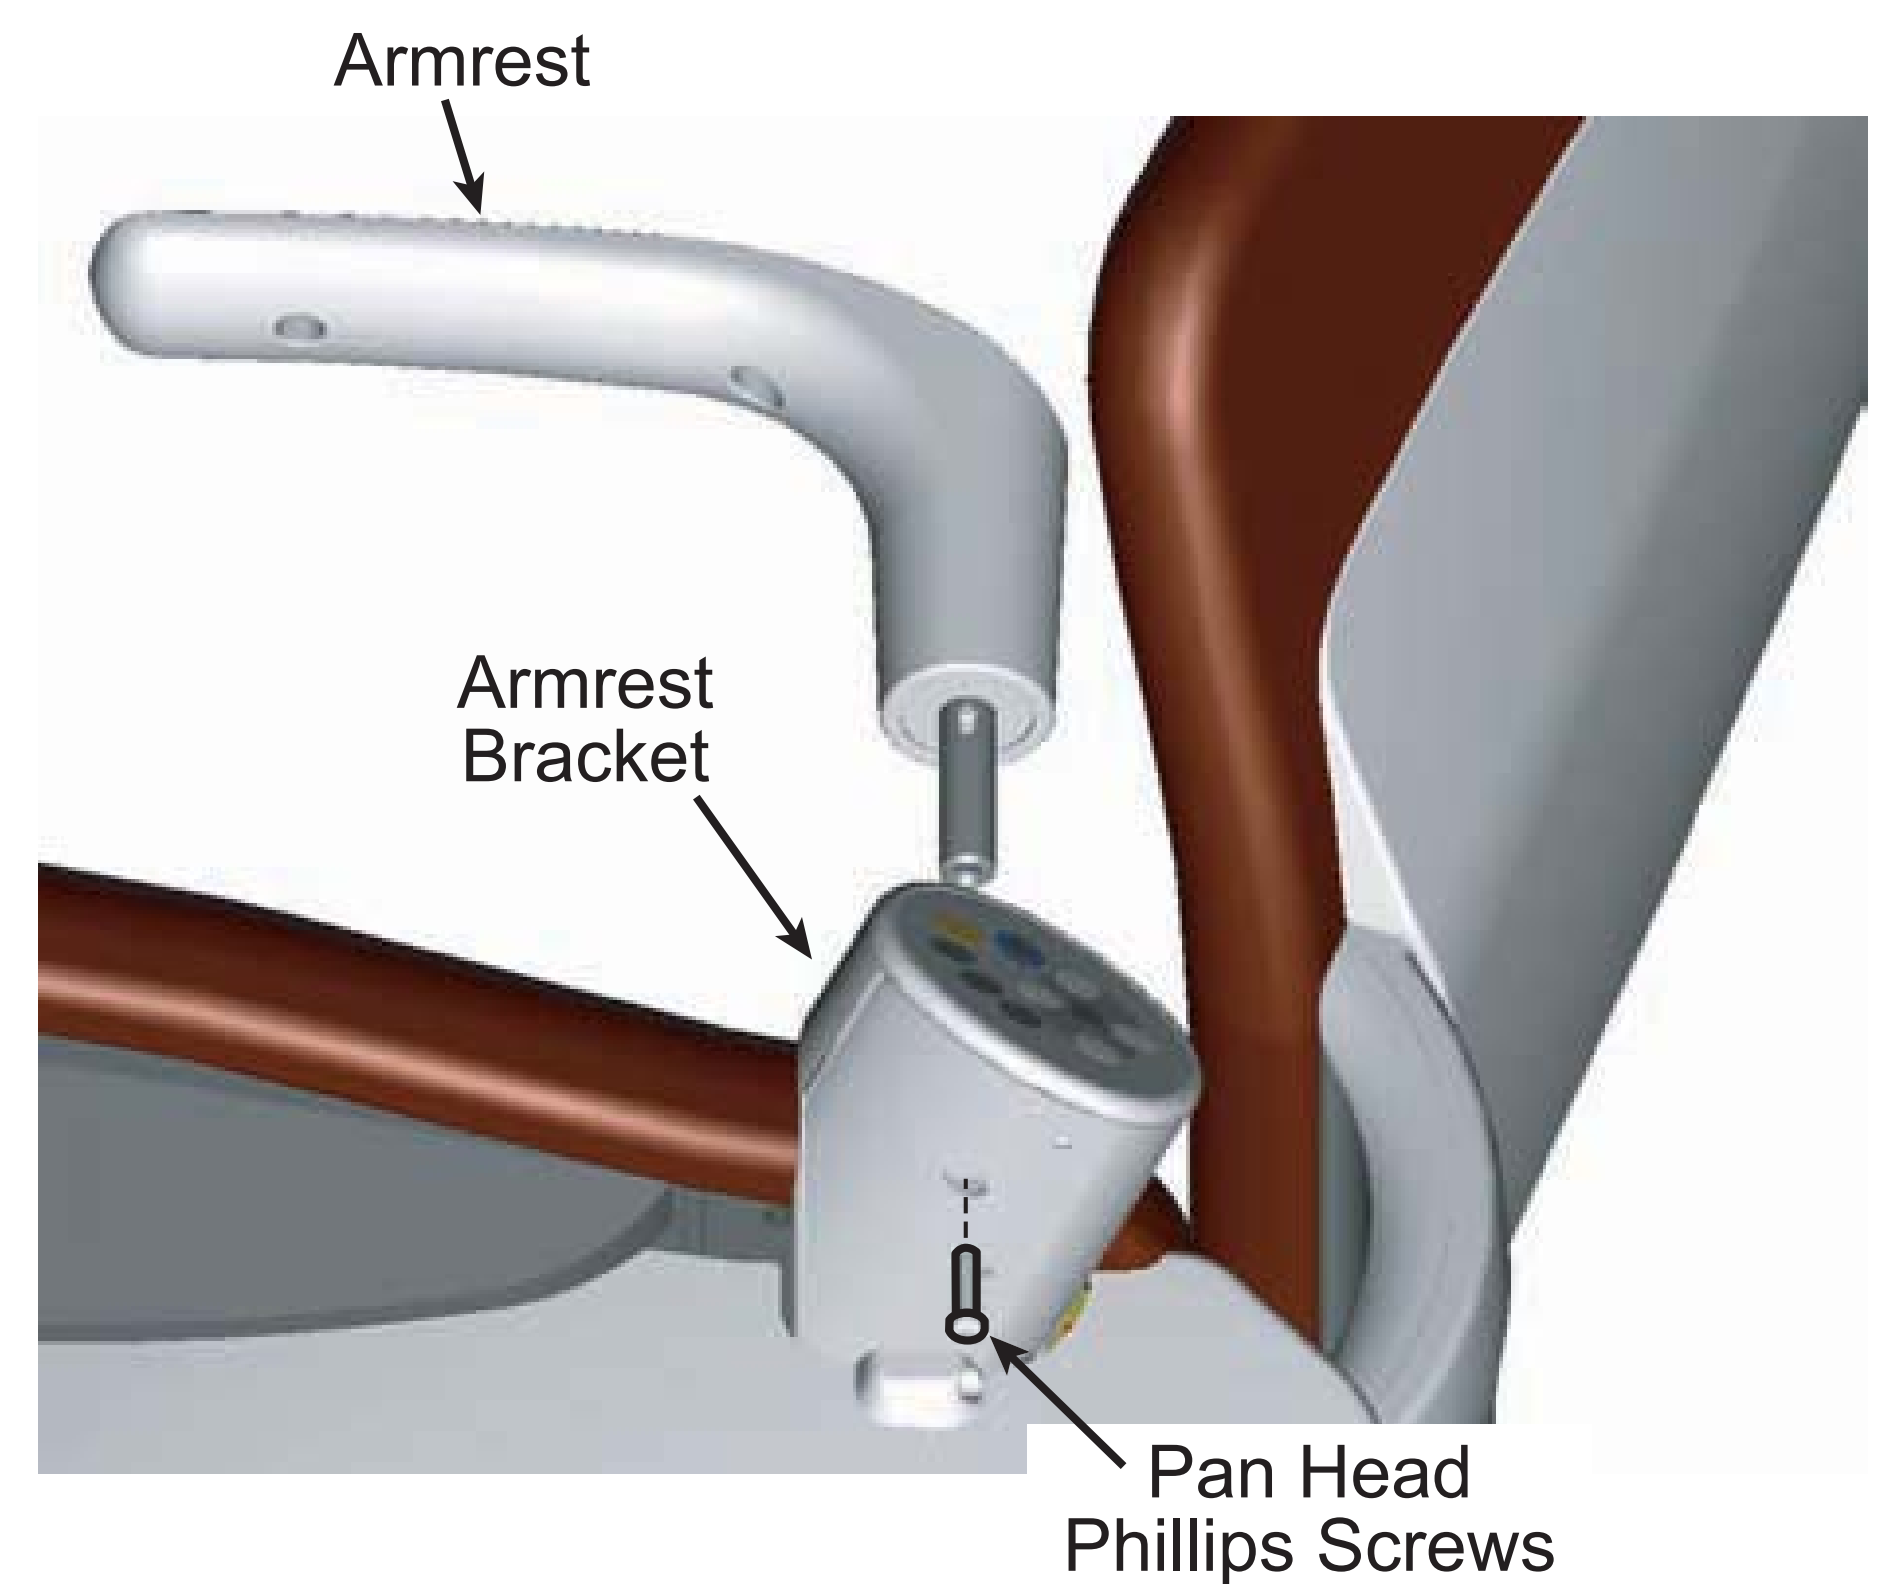

Fig. 5-12
1. Insert the Armrest to the Armrest Bracket and attach it with a pan head screw (M6x25mm). After attaching, verify both of the armrests swing outward 130 degrees only. (Fig.5-12)